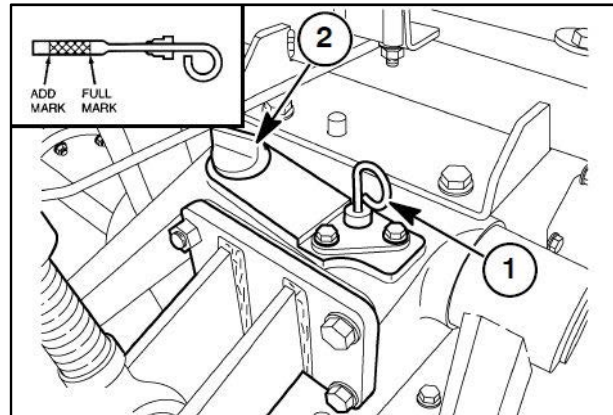

Figure 3-16
1. With the engine off and the tractor standing level, check the oil level using the dipstick (1) in Figure 3-16.
2. The oil is at the correct level when it reads between the two marks on the dipstick. If the level is low, remove the filler plug (2) in Figure 3-16, and add new oil of the type specified, page 3-5, through the filler hole. Do not fill above the dipstick full mark.